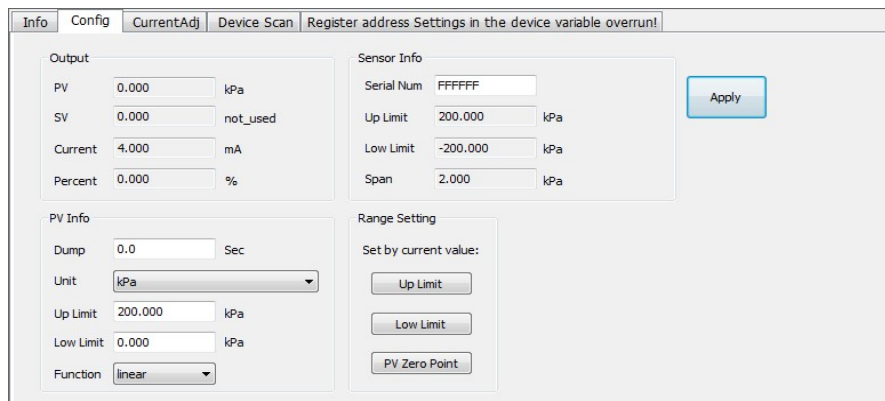

Figure 5.21 Configuration Information tab
- (1) The left mouse button clicks on an online device in the network view, and the right tab view displays the tabs associated with the device.
- (2) Click "configuration information" in the right tab view, and if the information is obtained successfully, the configuration information of the device is displayed, as shown in Figure 5.21.